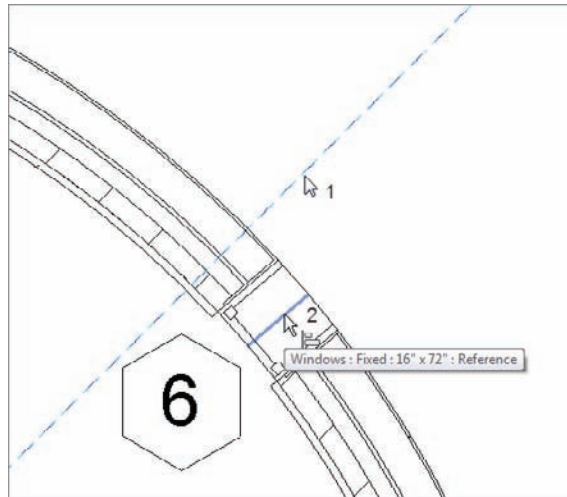

FIGURE 4.30 Choosing the items for alignment. Remember, you must choose the item you want to *align to* first.
6. The Align tool needs you to select two items. First select the item you want to *align to*; pick the reference plane as shown in Figure 4.30.